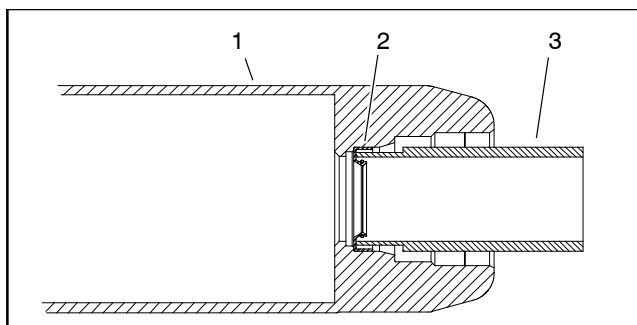

Figure 49
1. Install both inner seals into roller tube making sure that seal lip (and garter spring) faces end of tube. Use inner seal tool (see Special Tools in this chapter) and soft face hammer to fully seat seals against roller shoulder (Fig. 49). Apply a small amount of grease around the lip of both inner seals after installation.